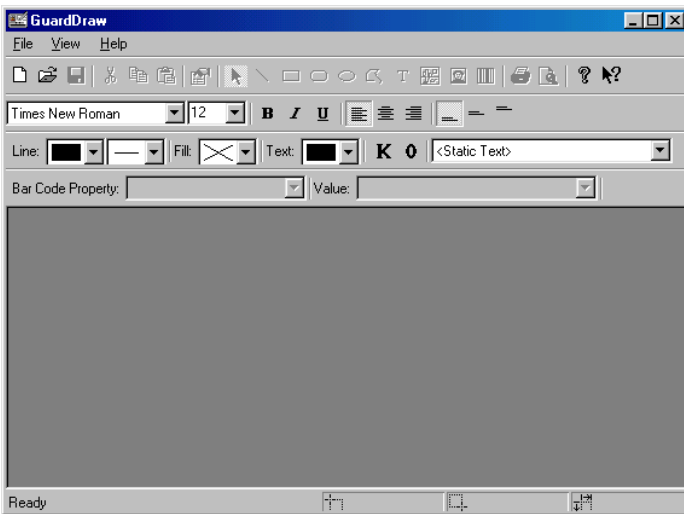

Figure 2: GuardDraw Main Window
1. Double-click the  icon (on the Windows desktop) to open the GuardDraw program. The GuardDraw main window appears (see Figure 2 on page 5).
icon (on the Windows desktop) to open the GuardDraw program. The GuardDraw main window appears (see Figure 2 on page 5).